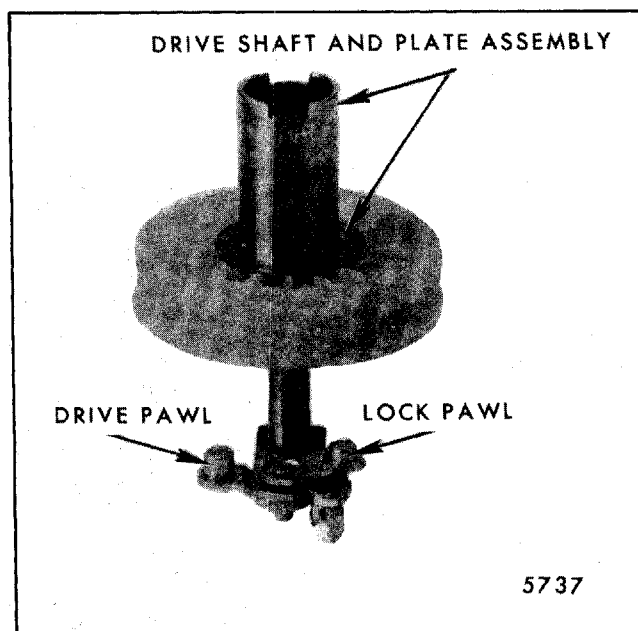

Fig. 2-115-Gear Removed
1. Position drive and lock pawls on drive plate as shown in Figure 2-115.
2. Slide gear and tube over the drive plate shaft. Move drive and lock pawls as required to allow their respective pins to fit in the gear guide channel (Fig. 2-115).